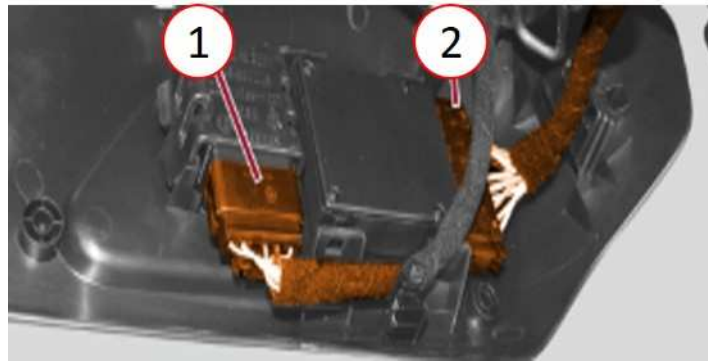

Fig. 3
4. Disconnect the wire harness connectors (Fig. 3) .
8. Connect the wire harness connectors to the switches (Fig. 3) .